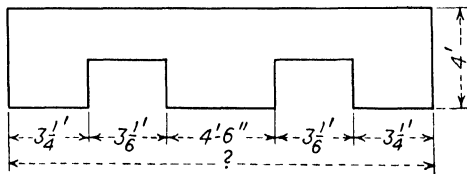

Fig. 53.
5. Find the total length in feet of the form in Fig. 53.